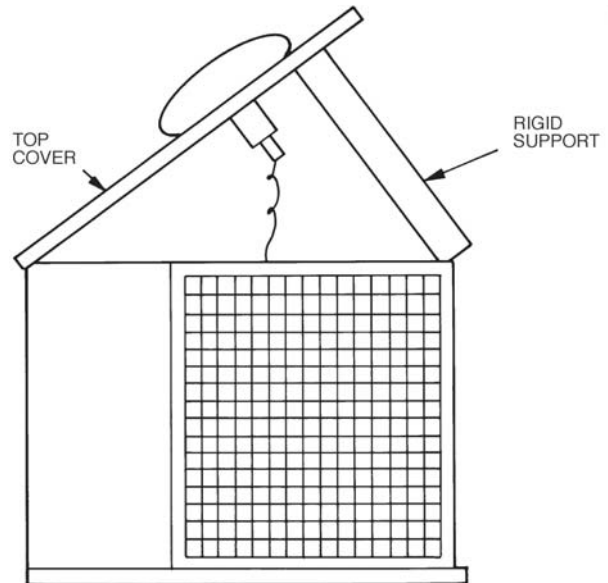

Fig. 38 - Pivot and Support Top Cover
2. Remove screws holding rear corner post and top cover in place. Pivot top cover up 12 to 18 inches (305 to 457 mm) and support with a rigid support. See Fig. 38.